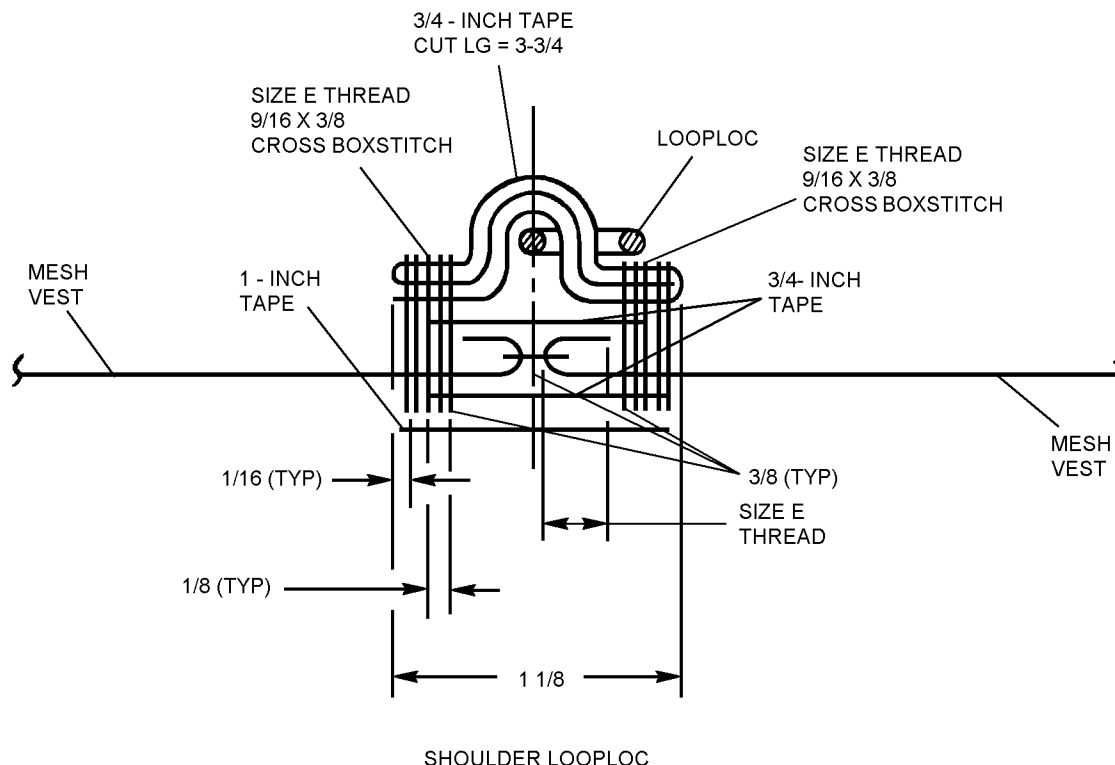

Figure 7-6. Survival Vest Shoulder Ring (Looploc)
a. Fold the 3 3/4-inch tape into three equal folds (approximately one inch). See figure 7-6 for dimensions and orientation.